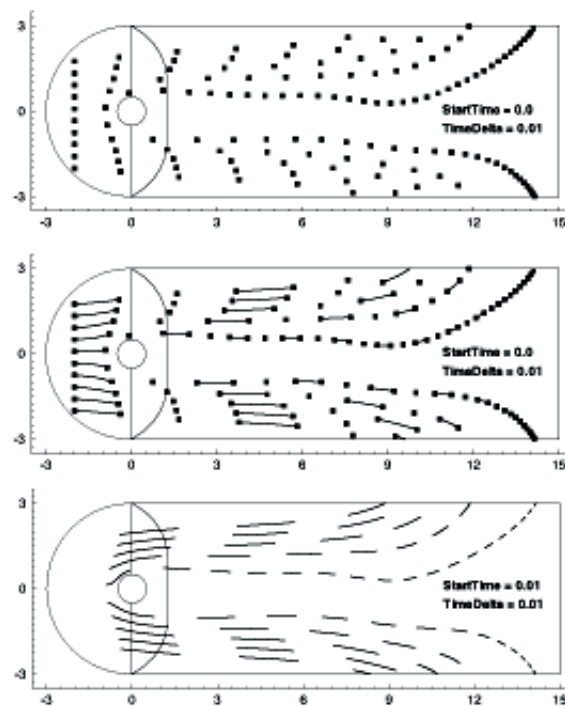

Figure 13-13. Streamtrace markers (top), dashes (bottom), and both (middle).
- **Stream Markers** - Stream markers are symbols plotted along streamtrace paths to identify the positions of particles at certain times. Figure 13-13 shows a plot with both streamtrace markers and dashes.